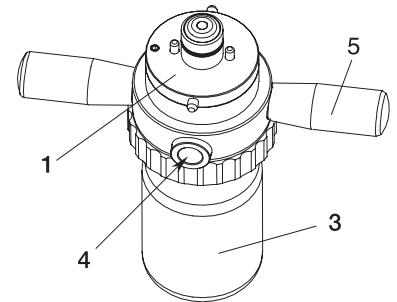

FIG. 3
4.1.2 Aseptic bottle adapter and dummy adapter (see fig. 3 and 4)